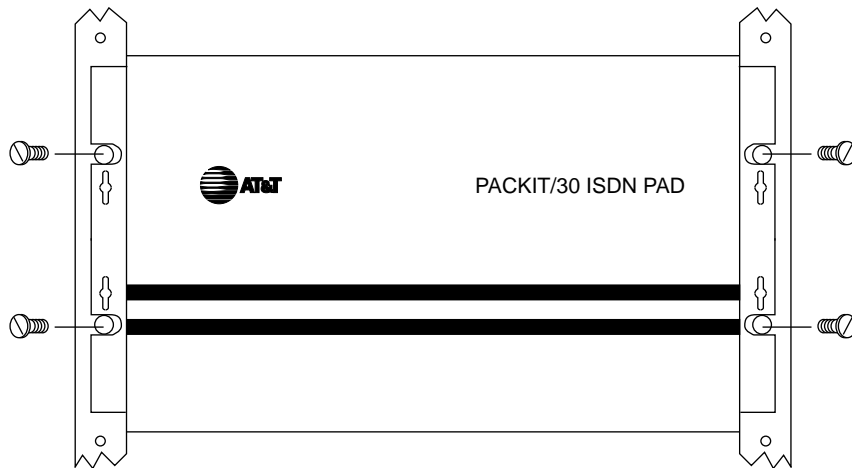

FIGURE 8-30. PACKIT/30 Rack-Mounting (Front View)
2. Mount the PACKIT/30 onto the rack using the four locally-supplied screws as shown in Figure 8-30. Remember, you may also install the unit with the rear to the front of the equipment rack.